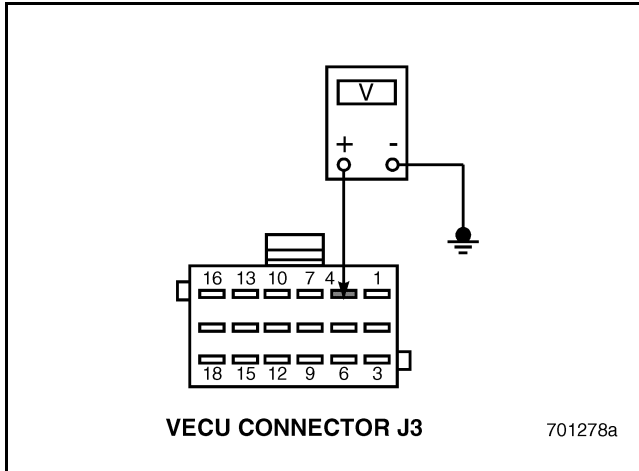

Figure 550
2. Disconnect the Throttle Position (TP) Sensor.
5. Measure the voltage between VECU connector J3 pin 4 and a good ground (see Figure 550).